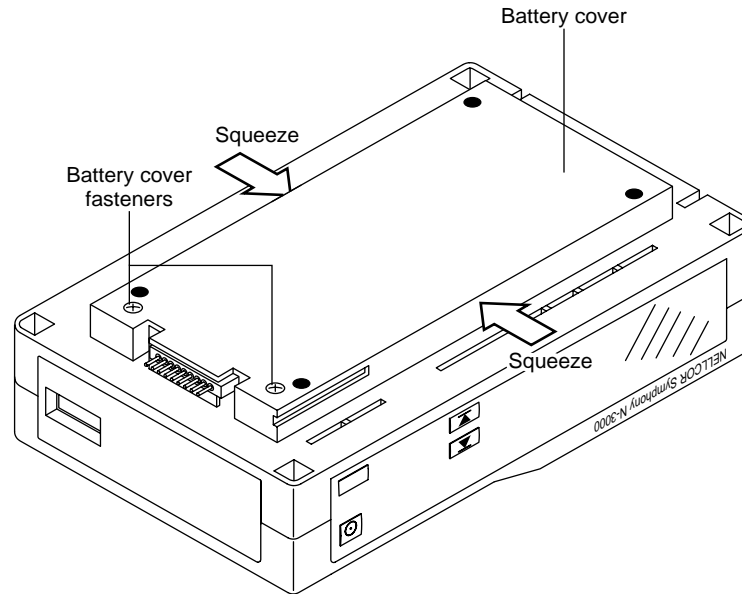

Figure 6-1: Battery Replacement
3. Set the N-3000 upside down facing you, as shown in Figure 6-1.